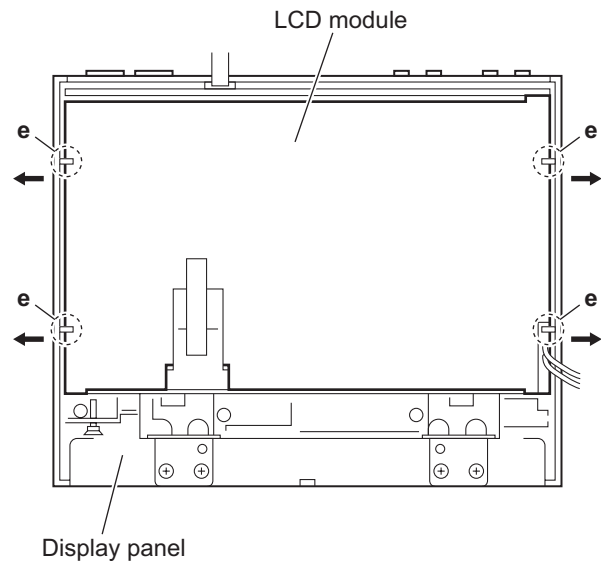

Fig.5
3.3.4 Removing the LCD module (See Fig.5)